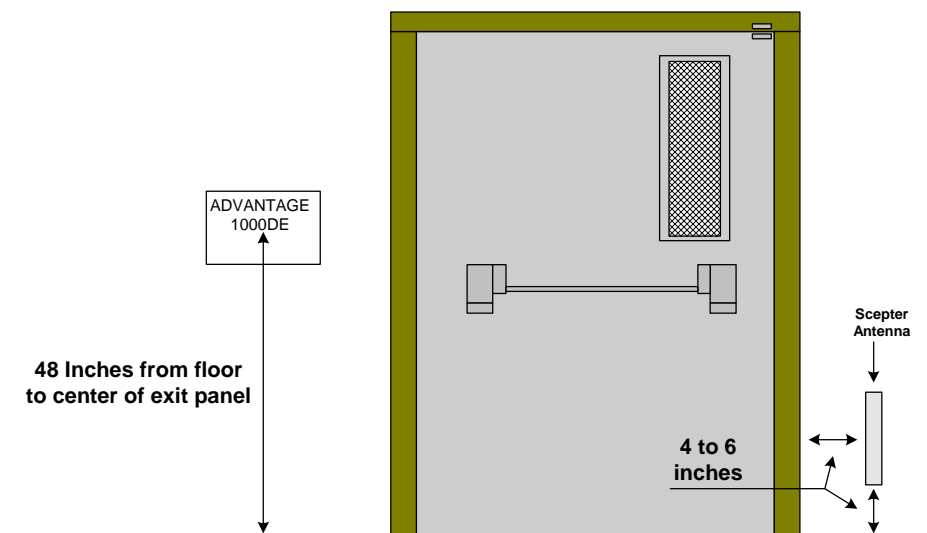

Figure 4-1 Mounting locations examples
4. Determine the location of the SMT Advantage 1000DE Exit Panel and cut holes in the wallboard as needed. Install surface mount boxes if required. **Refer to Fig. 4.1**
7. Mount the Scepter[®] Antenna and route the cable into the Exit Panel box. (Scepter Antenna should not be mounted on metal) **Refer to Fig. 4.1**